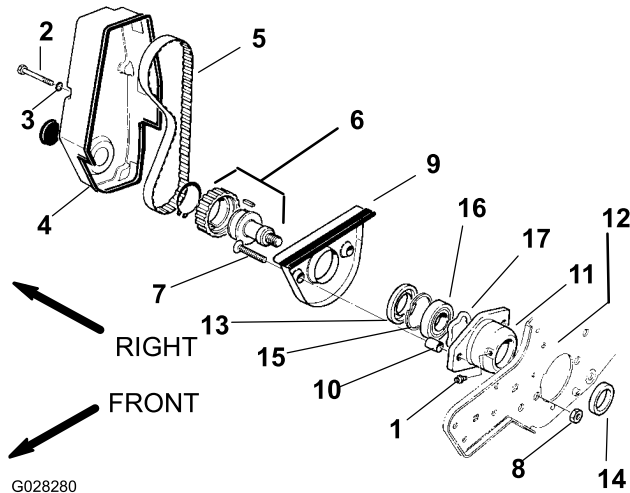
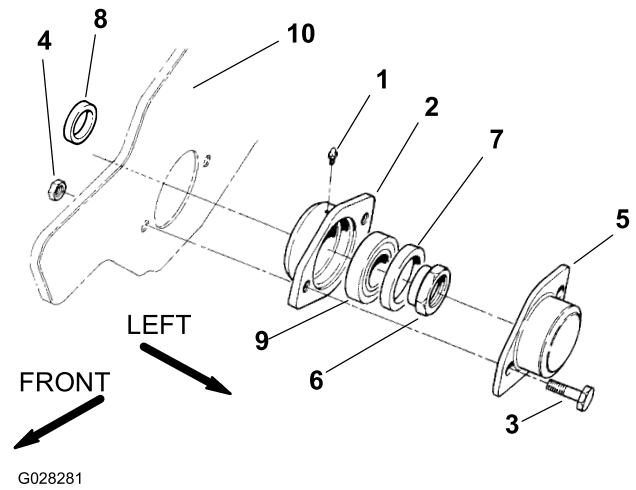

Figure 1
Figure 2
1. Remove 4 cap screws, 4 lock washers, and the reel drive cover from the mower (Figure 1).
2. Remove the reel drive belt from the pulley and drive assembly (Figure 1).
3. Remove both cap screws, locknuts, and the bearing cover from the left bearing housing (Figure 2).
4. Use a 1/2 inch square drive in the pulley and drive assembly (Figure 1) to remove the assembly from the reel drive shaft. Remove the bearing locknut (Figure 2) from the reel drive shaft at the same time.
5. Use an Allen wrench to remove both flat head screws, the groomer arm cover, and both cover standoffs from the bearing housing (Figure 1).
6. Remove the grease fittings from both bearing housings (Figure 1 and Figure 2).
7. Pull both bearing housings from the frame and reel (Figure 1 and Figure 2) and remove the reel from the mower.
3. Attach the right-hand bearing housing through the frame onto the reel shaft (Figure 1).
4. Attach the left-hand bearing housing through the frame onto the reel shaft (Figure 2).
5. Tighten the flat head screws and nuts securing the right-hand bearing housing to the frame (Figure 1).
6. While tightening the bearing lock nut (Figure 2) to the reel shaft, tighten the pulley and drive assembly (Figure 1) to the reel shaft at the same time. Torque assembly and nut to 68 N·m (50 ft·lb).
8. Position the bearing cover to the housing and secure it to the frame with both capscrews and locknuts (Figure 2).
10. Install the reel drive cover with 4 lock washers and capscrews to the mower (Figure 1).
11. Install the grease fittings onto both bearing housings and lubricate them with general-purpose lithium-based grease (Figure 1 and Figure 2).